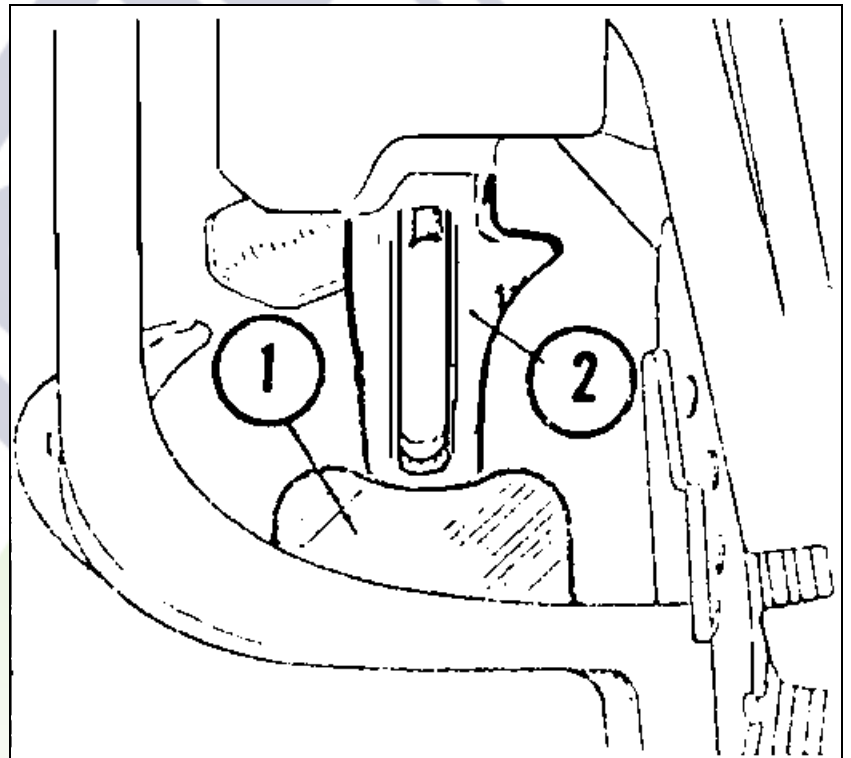

Fig. 20
1. The ejector tongue (no.1 Fig. 20) in its movements must rub with a smooth pressure on the back of the knoter hook (no. 2 Fig. 20).
2. The tongue is bent to follow the back of the knoter hook. The hook itself must hit it the centre the longue bend (Fig. 20).